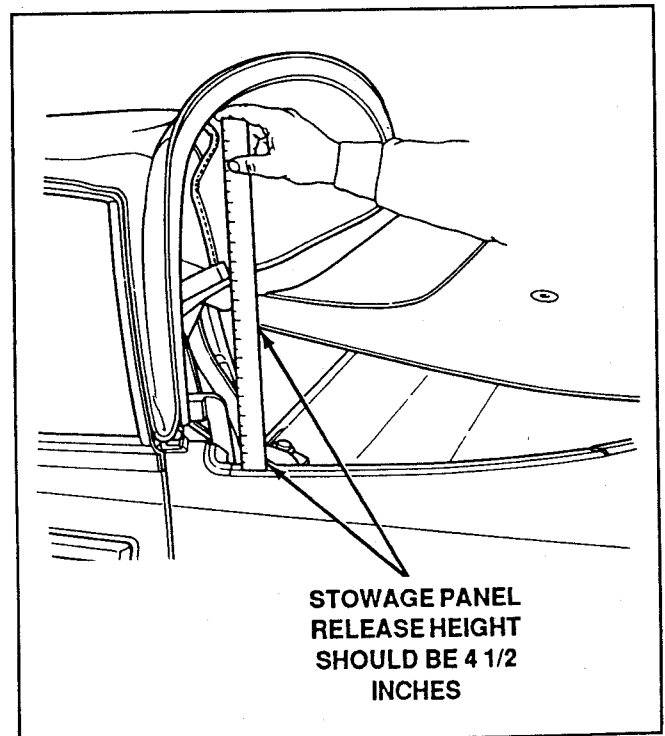

Figure 54. Measure Stowage Panel Height
2. Press the stowage panel release switch. Measure the stowage panel release height (Fig. 54).